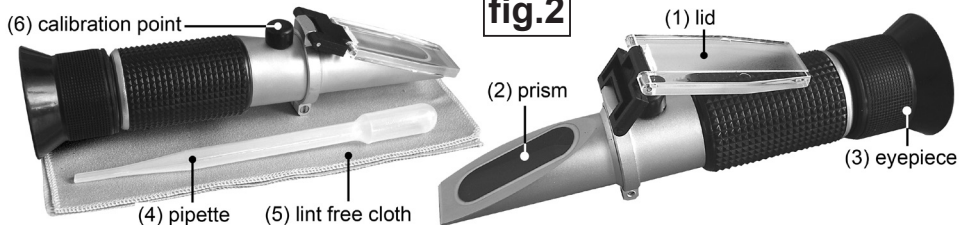

fig.2
3. TEST PROCEDURE (Refer to fig.2)